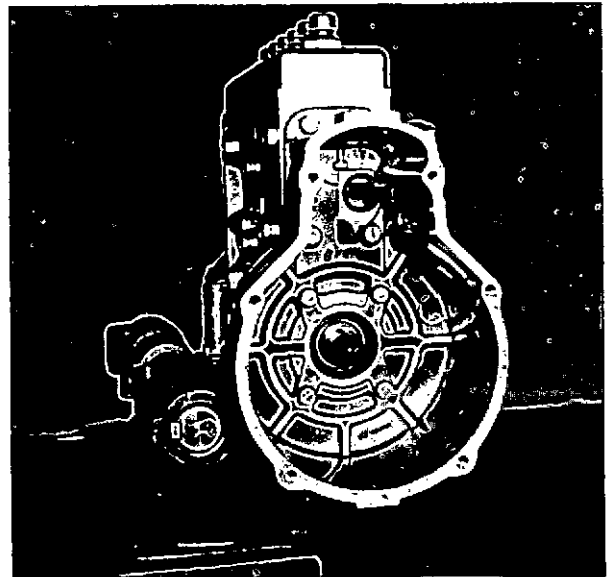

Fig. 6 Pump on swivel vice
3. Mount the pump on a suitable rig, such as the swivel vice 0 681 240 048 shown in fig. 6. Remove the rear cover and dismantle the governor as described under 'DISMANTLING' in Part 3.